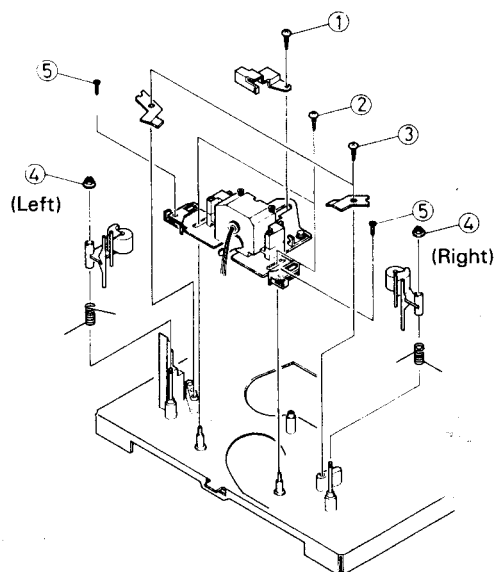

Fig. 4
### 1. Pinch roller (left) (Fig. 4).
### 2. Pinch roller (right) (Fig. 4)
### 3. Replacing the head Ass'y (Fig. 4)
1. Perform procedures 1 through 3 above. (Fig. 4)